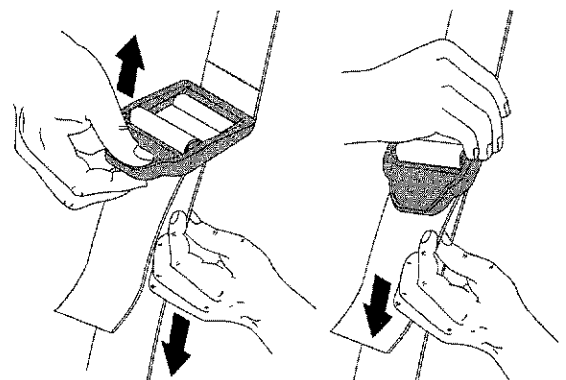

Fig. 6
4. Adjust length to fit the operator's size. Pull tab to lengthen, pull strap to shorten (Fig 6).